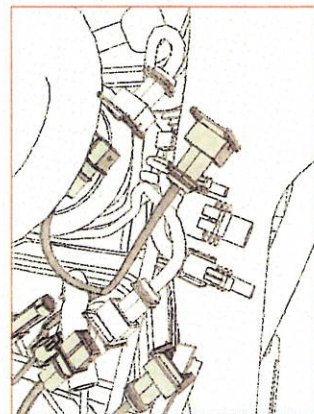

Figure 20
12. Feed the harness back through the front of the opening, and route as shown. (Figure 20)